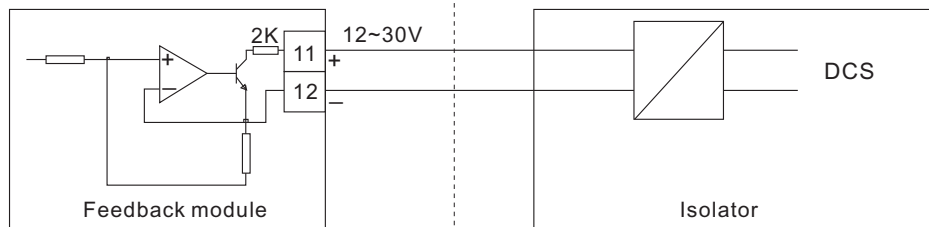

Fig 4-15 : Feedback module electrical connection
4.4.4.3 Analog feedback module electrical connection (Fig 4-15)